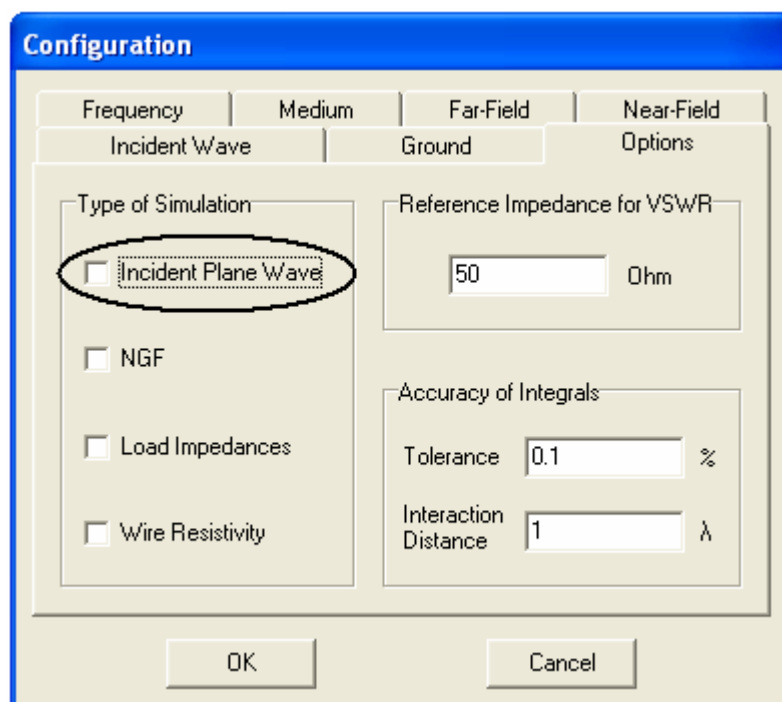

Fig. 8.2: The Incident Plane Wave option in the Options page of the Configuration dialog box must be unchecked when sources have to be used as the excitation.
3. The Incident Plane Wave option must be unchecked, as shown in Fig. 8.2.